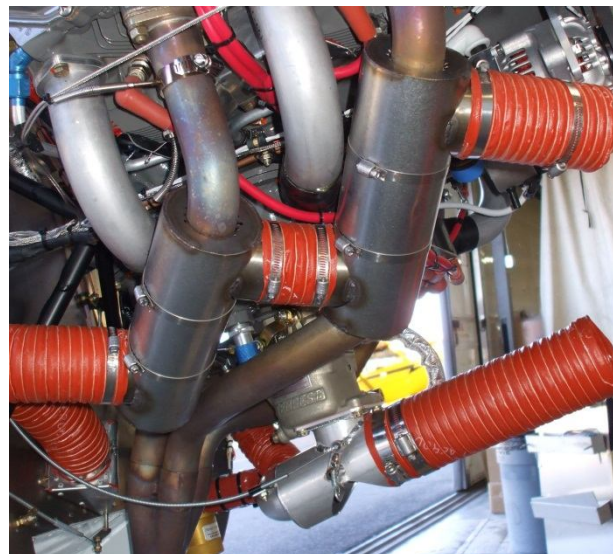

Figure 4
8. Install the new collectors (SC57330-001) by opening them up by hand just enough to slip them over the #1 and #3 exhaust pipes (Figure 4). Position the collectors on the straight section of each pipe and start two hose clamps (HDW-3720) on each collector (to reduce weight, two lightweight hose clamps are daisy-chained together to function as a single clamp). Connect the two collectors together with a piece of SCAT (RM0006-002) approx. 2 1/2" long and two hose clamps (HDW-100-215). Tighten all of the hose clamps while paying attention to how the ends of the collectors are lining up as well as the opening down the side of each collector. Do not over tighten the clamps. They should be just tight enough that the gaps on the end caps are gone and you cannot move the collector on the pipe.